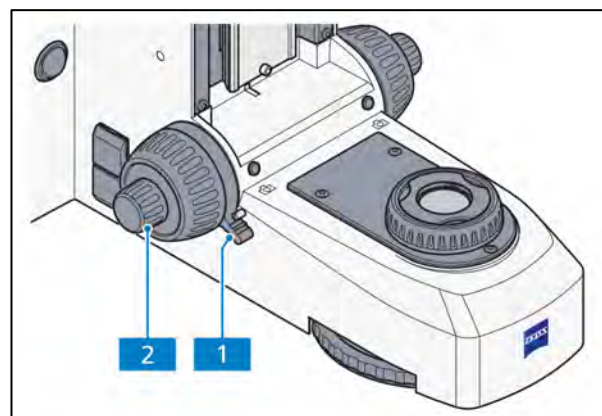

Fig. 4-5 Adjusting the height stop on the focusing drive
(5) Adjusting the height stop on the focusing drive
- Turn the clamping lever (Fig. 4-5/1) of the stop towards the pin stop.
- Move the stage with the aid of the focusing drive (Fig. 4-5/2) to the highest position allowable without risking colliding with specimen holder or objectives.